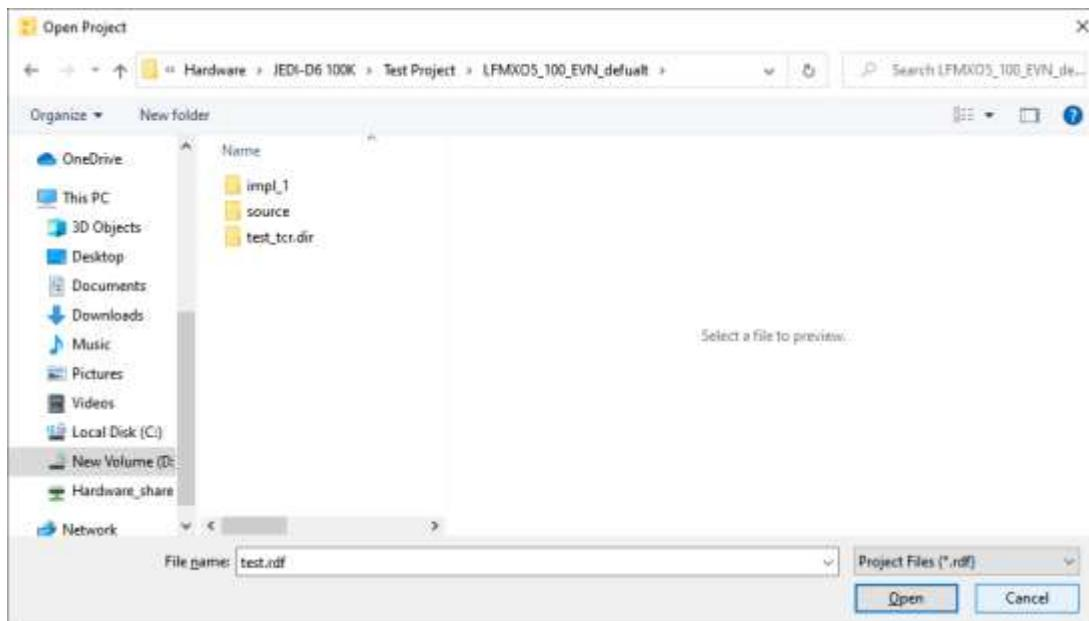

Figure 10.1. Radiant Software – Open Project Dialog Box
3. In the **Open Project** dialog box, select the *test.rdf* file and click **Open**, as shown in Figure 10.1. This opens the demo project.